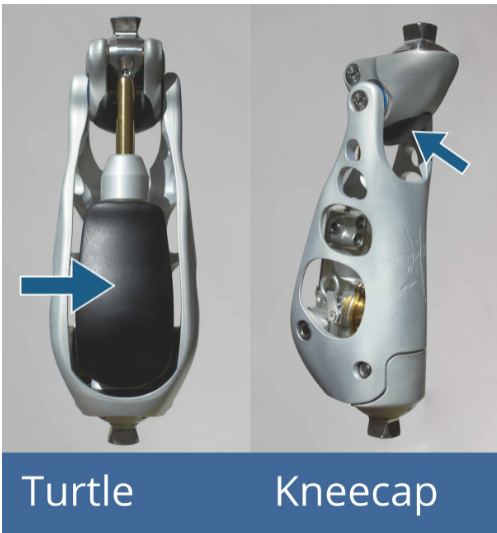
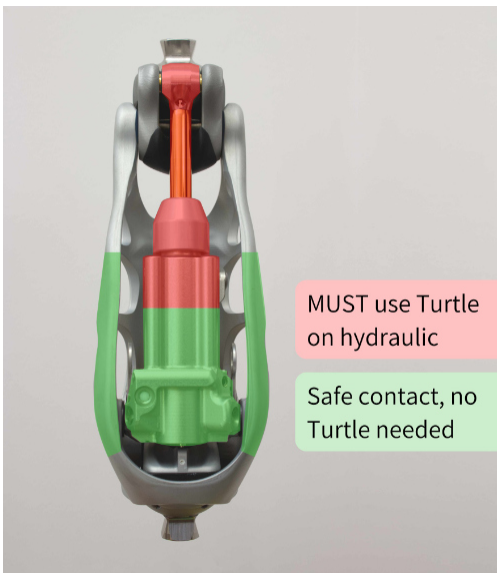

Fig 2.3: There are two rubber parts that support safe and comfortable kneeling, the Turtle and the Kneecap.
Fig 2.4: Ensuring safe contact with the socket, tube, or adapters.
1. It is permissible to kneel on the hydraulic provided the socket/tube comes into contact with the green regions, as indicated in Fig 2.4.
2. If the socket/tube rests on the red regions in Fig 2.4, the Turtle (see Fig 2.3) **MUST** be attached onto the hydraulic at all times. The Turtle assists in bringing the contact point into the green region. Be aware that in some cases, when the socket is quite wide at the end, the Turtle may still be insufficient to ensure safe contact. In this case you can glue material on the back of the rigid section of the Turtle. **DO make sure that eventually the contact point is in the green region in Fig 2.4.**